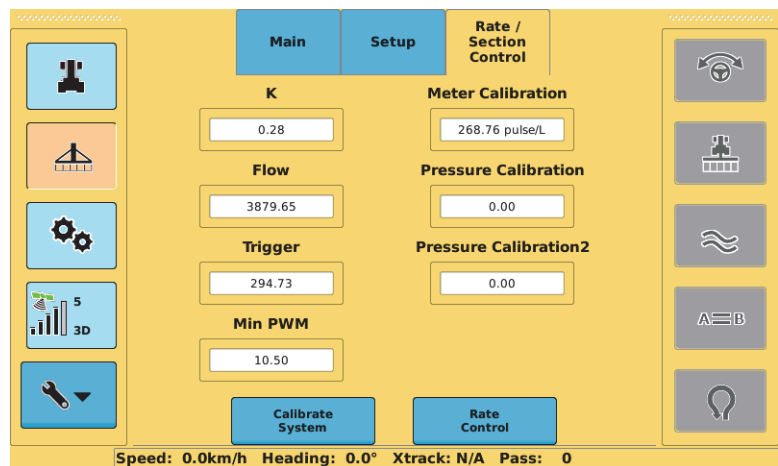

Figure 3: Calibration Values screen
You calibrate your system via the Calibration Values screen (Figure 3).
3. Press **Calibration Values**. The Calibration Values screen appears (see Figure 3 on the previous page).